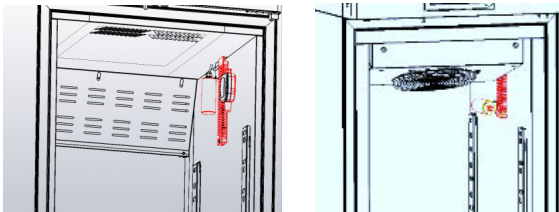

Figure 9. Probes Position
- Do not position material in contact with or near the temperature probes (**Figure 9**).